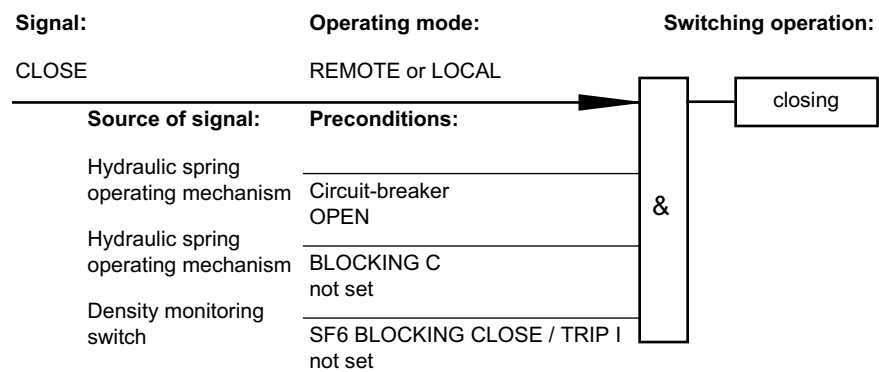
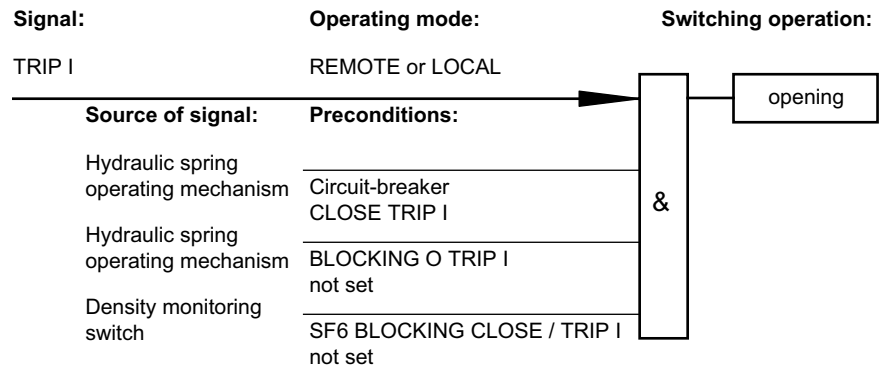

Fig. 4-13 Closing operation Q0-CLOSE
Fig. 4-14 Opening operation TRIP I
Fig. 4-13, page 99 and Fig. 4-14, page 99:
- conditions for circuit-breaker protection: fulfilled, see Fig. 4-13 Closing operation Q0-CLOSE, page 99
see Fig. 4-14 Opening operation TRIP I, page 99